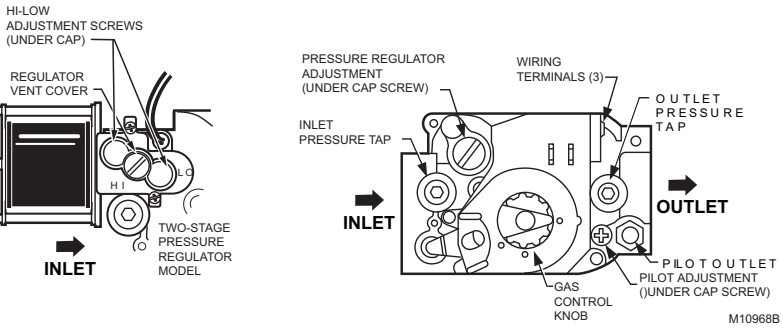
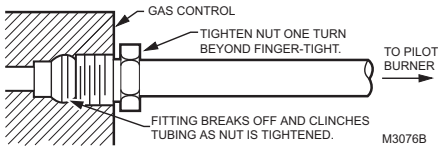

Fig. 6. Top view of gas control.
Fig. 7. Always use new compression fitting.
3. Unscrew the brass compression fitting from the pilot outlet (Fig. 6). Slip the fitting over the tubing and slide out of the way. See Fig. 7.
1. Remove pilot adjustment cover screw. See Fig. 6.
3. With main burner operating, check the control flow rate using the meter clocking method or check pressure using a manometer connected to the outlet pressure tap on the control. See Fig. 6.
- b. Using a screwdriver, turn the inner adjustment screw (Fig. 6) clockwise  to increase or counterclockwise  to decrease the gas pressure to the burner.
3. With main burner operating, check the gas control flow rate using the meter clocking method or check pressure using a manometer connected to the outlet pressure tap on the gas control. See Fig. 6.
Using a screwdriver, turn the inner adjustment screw (Fig. 6) clockwise  to increase or counterclockwise  to decrease the gas pressure to the burner.
4. With main burner operating, check the gas control flow rate using the meter clocking method or check pressure using a manometer connected to the outlet pressure tap on the gas control. See Fig. 6.
- a. Remove the pressure regulator adjustment cap (Fig. 6).